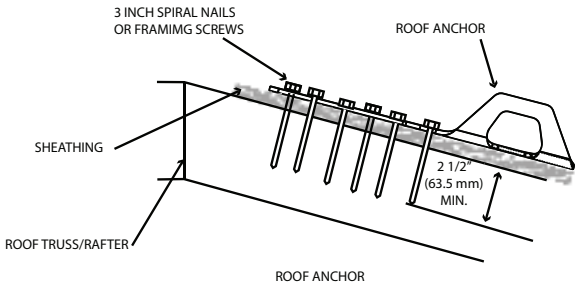

Figure B-2
- 2. Only use six (6) 3 inch spiral nails or framing screws. All six (6) screws MUST be used and fully embedded into framing member and engage the roof sheathing and rafter or truss by at least 2 1/2 inches (63.5 mm). See Figure B-2.